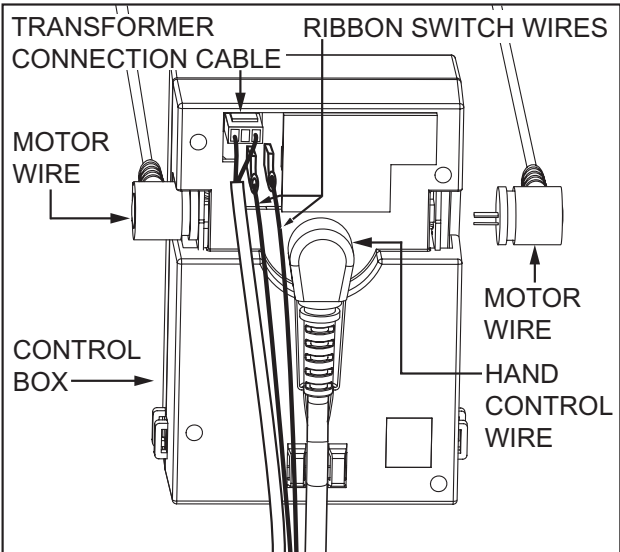

Figure 3. Control Box Wiring
4. Unplug the motor wires from the control box. See figure 3.